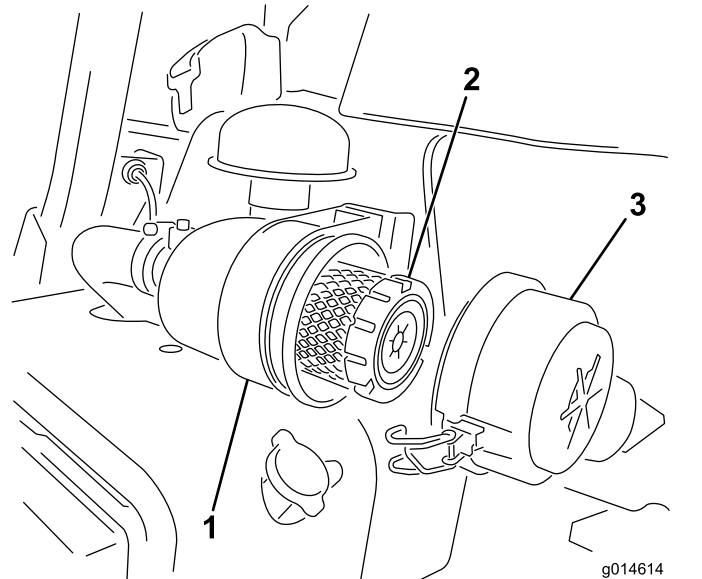

Figure 29
1. Release the latches securing the air-cleaner cover to the air-cleaner body (Figure 29).
- Secure the latches (Figure 29).